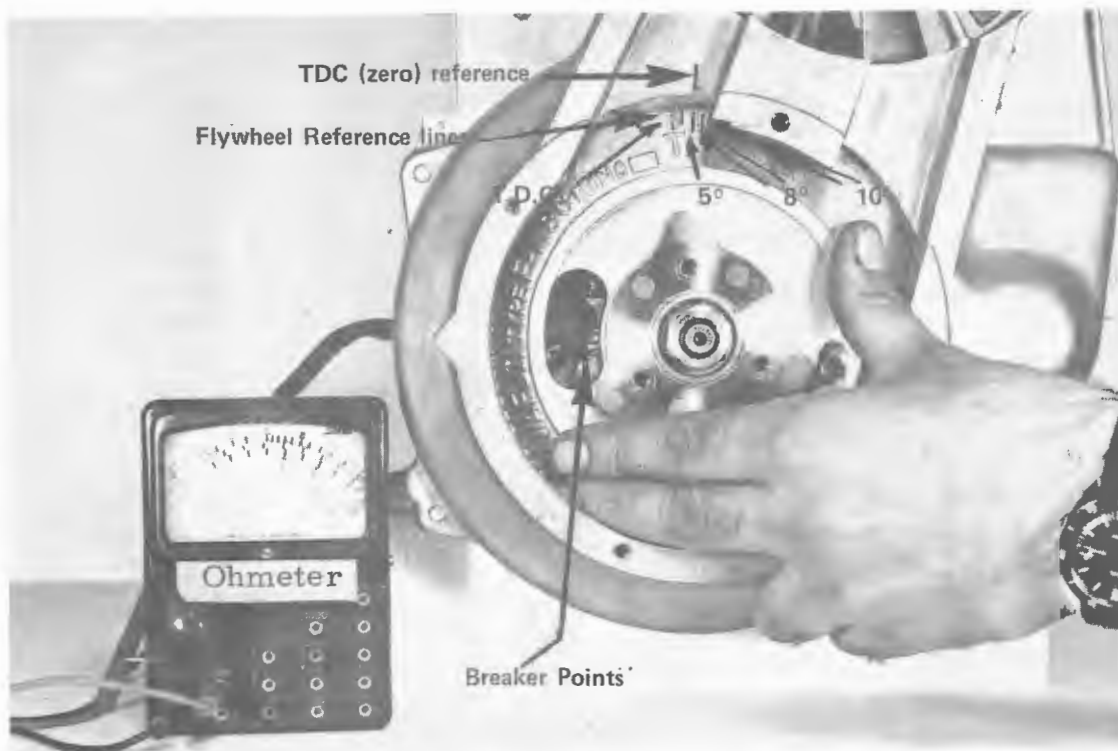

Fig. 5-14 Setting Engine Ignition Timing—Alternate Method
5.4.4 Engine Ignition Timing (See Figure 5-14)
5.4.4.2 Alternate Method (See Figure 5-14)